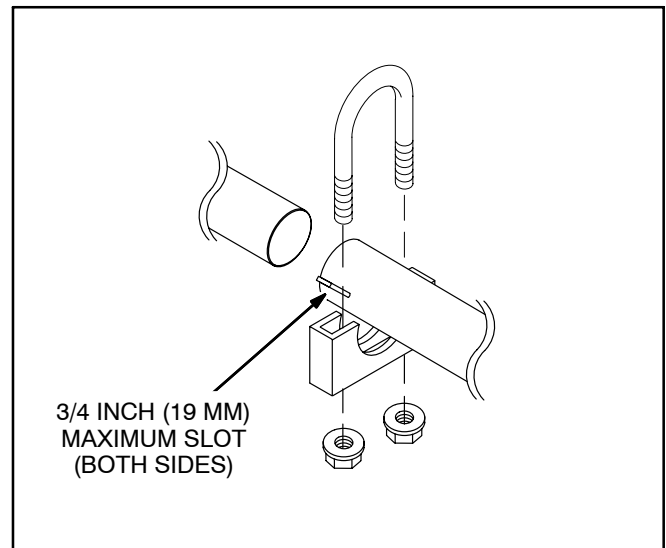

FIGURE 3-3. EXHAUST TAILPIPE CONNECTIONS
2. Use U-bolt muffler clamps to connect sections of tailpipe. It is recommended that the overlapping pipe be slotted as shown in Figure 3-3.